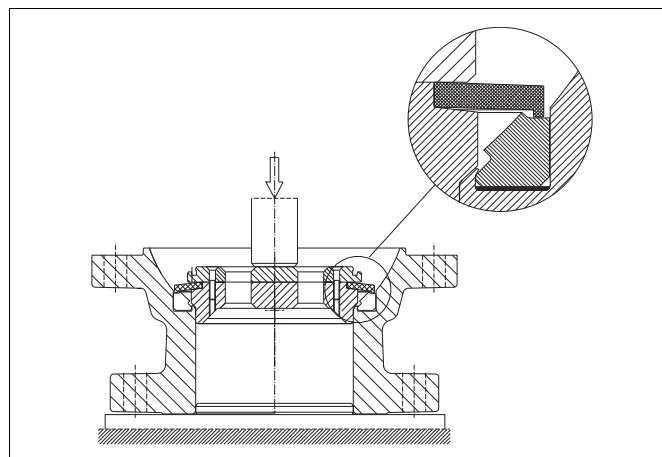

Fig. 28 Locking of the seat
- ❑ Mount the locking tool carefully over the seat, see Fig. 28.